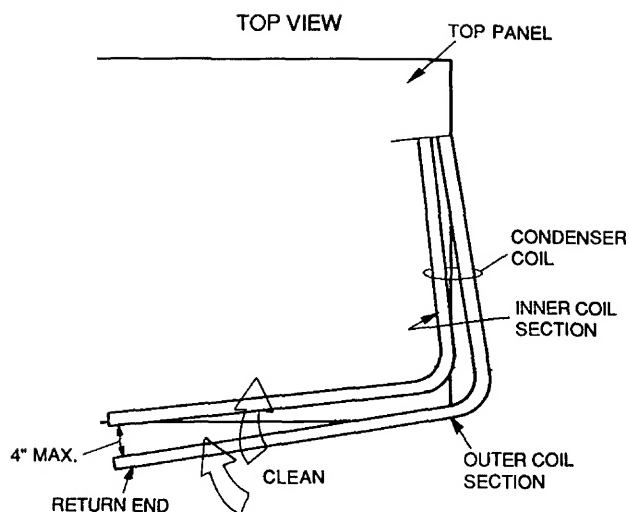

Fig. 9 — Separating Coil Sections
4. Remove device holding coil sections together at return end of condenser coil. Carefully separate the outer coil section 3 to 4 in. from the inner coil section. See Fig. 9.